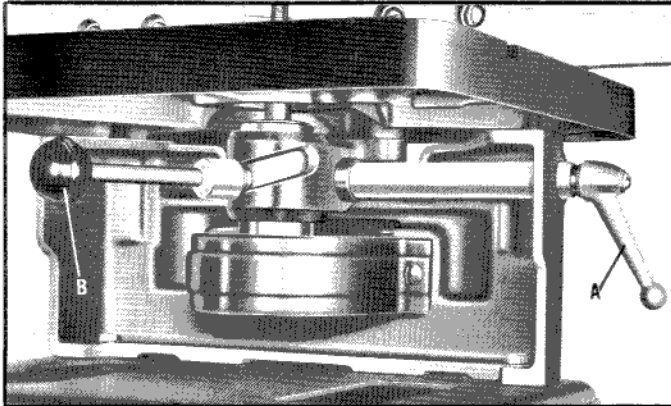

Fig. 19
The spindle can be moved up or down $\frac{7}{8}$ of an inch. To raise or lower the spindle, loosen lock handle (A) Fig. 19, and move lever (B). Always tighten lock handle (A) after raising or lowering the spindle.